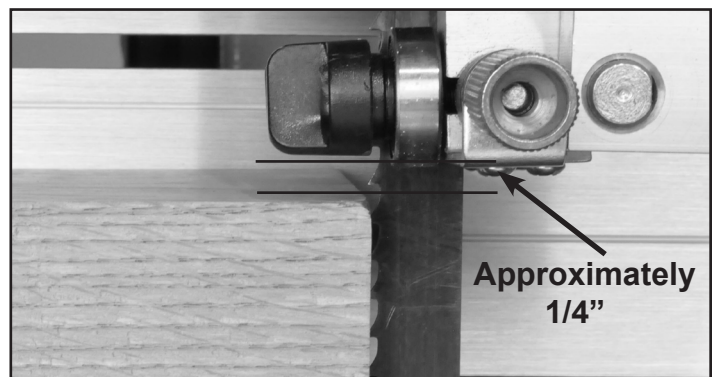

FIGURE 28
**NOTE:** Before cutting, set the upper guide bearings approximately 1/4" above the top surface of the work piece. This will give the best blade control. Fig. 28.